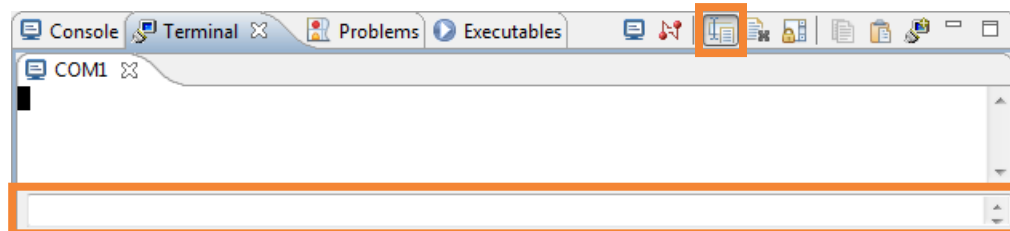

Figure 3.47. Terminal View
5. (Optional) Click the **Toggle Command Input** icon that adds an edit box to enter text (Figure 3.47).